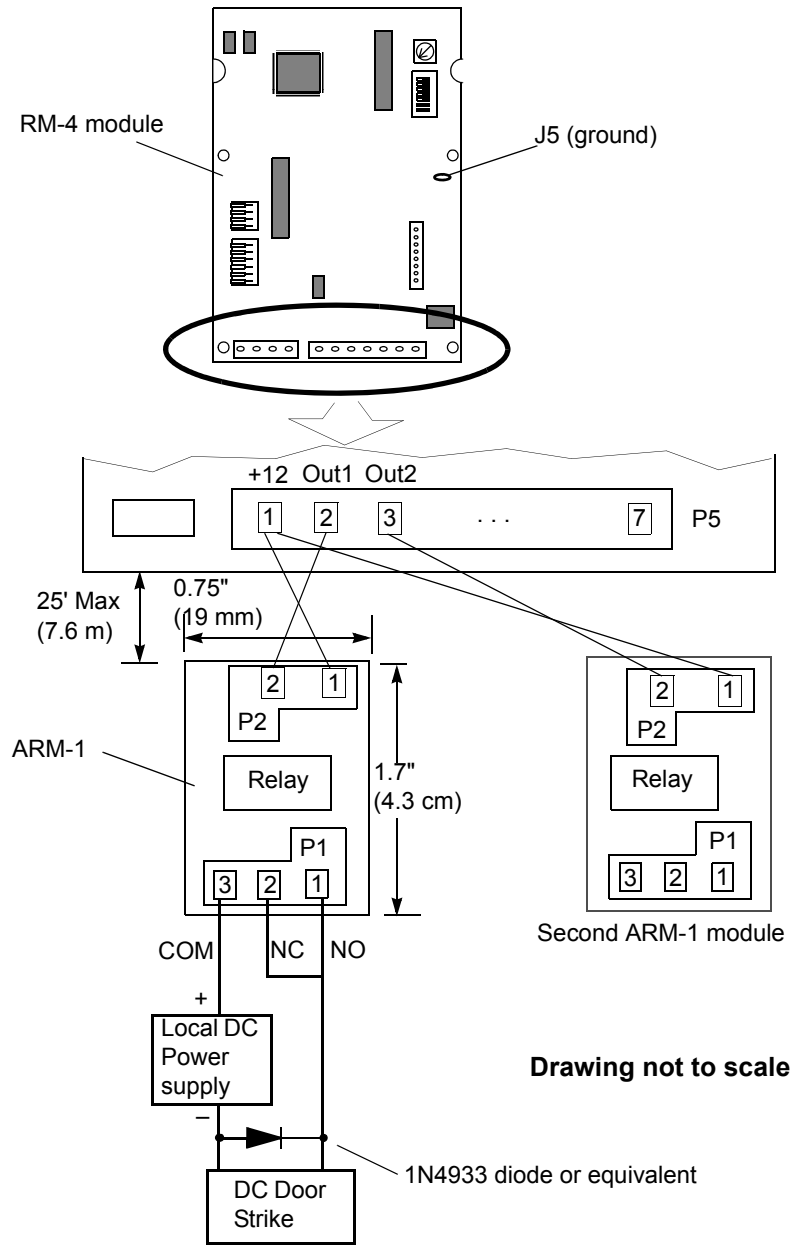

Figure 3.8: Typical ARM-1 Wiring, DC Power Source
2. Use twisted, shielded Belden #9462 wiring (or equivalent) to attach the ARM-1 to the RM Series Reader or to an RM-4 (see Figure 3.8).
Note: When connecting a second ARM-1, attach the ARM-1 P2-1 to P5-1 (+12v) and P2-2 to P5-3 (out2) on the RM Series Reader or RM-4 Module (see Figure 3.8).